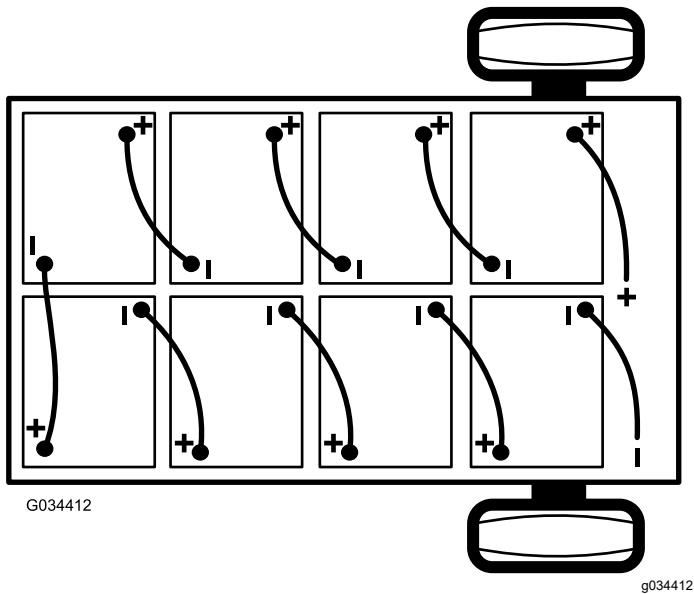

Figure 41
2. Disconnect the main negative-battery cable (black) that connects the bank of batteries to the ground point of the machine (Figure 41).
3. Disconnect the main positive-battery cable (red) that connects the bank of batteries to the main contactor of the machine (Figure 41).
**Note:** Pay attention to the battery polarity when installing the new batteries (Figure 41).
6. Connect the batteries together as shown in Figure 41 with the battery-interconnect cables that you removed in step 1.
2. Connect the main positive-battery cable (red) between the bank of batteries and the machine (Figure 41).
3. Connect the main negative-battery cable (black) between the bank of batteries and the machine (Figure 41).